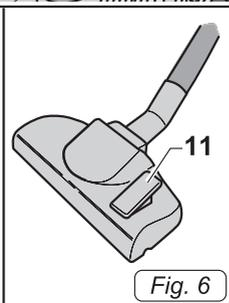

Fig. 6
- Attach the required accessory (suction tool, dusting brush, crevice tool, multi-purpose brush etc.) to the extension (10 Fig. 6).
- To clean hard floors, parquet etc.: press the lever (11 Fig. 6) back to extract the brush bristles.
- To vacuum on carpets, rugs etc.: press the lever (11 Fig. 6) forwards to retract the brush bristles.